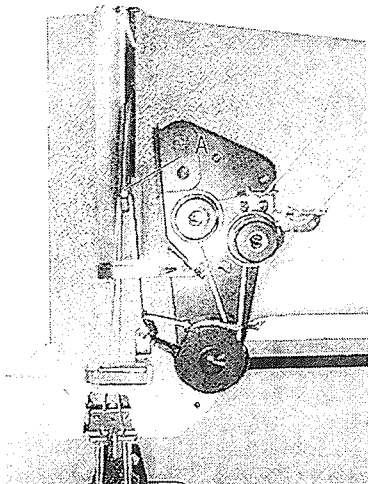

Fig.35
1) When the connection belt removed from the pulley for adjusting and or replacing purposes of the parts (Figs. 35 & 36)